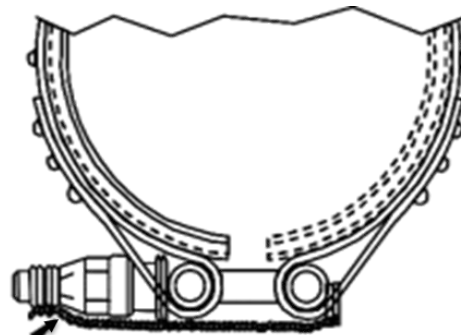

Figure 12
- l. We recommend safety wire (minimum 0.032 in. stainless steel) per acceptable methods the bolt head to the nut end trunnion of the coupling as applicable to preclude opening of the coupling if the bolt or nut loosens, fails, or separates from the mating fastener after installation. Refer to Figures 12 & 13.